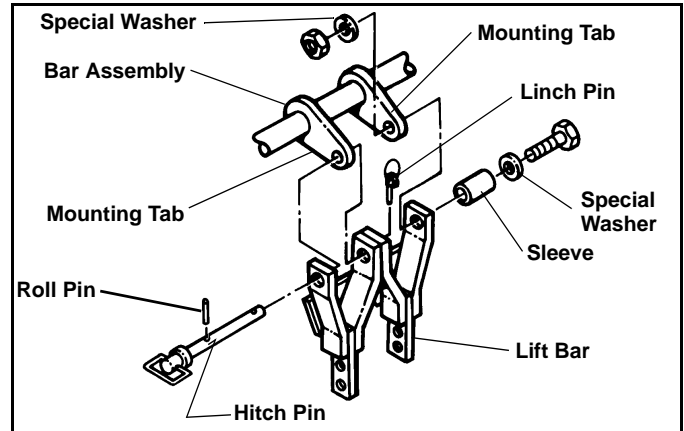

Figure 5
7. Remove Linch Pin, Roll Pin, and Hitch Pin located on Lift Bar. Remove Hitch Pin from Lift bar. (See Figure 5)
8. Align 3/4" hole in mounting tab, on Lower Bar Assembly Cross Tube, with matching hole in lift arm. Insert Hitch Pin in aligned holes and replace Roll Pin and Linch Pin. (See Figure 5)
9. Align 3/4" hole in mounting tab, on Lower Bar Assembly Cross Tube, with matching hole in Lift Bar and insert Sleeve (#27) secure with 1/2" x 2" Capscrew (#28), two Special Washers (#30), and Nylock Nut provided. Tighten to 75 Ft.Lbs. (See Figure 5)